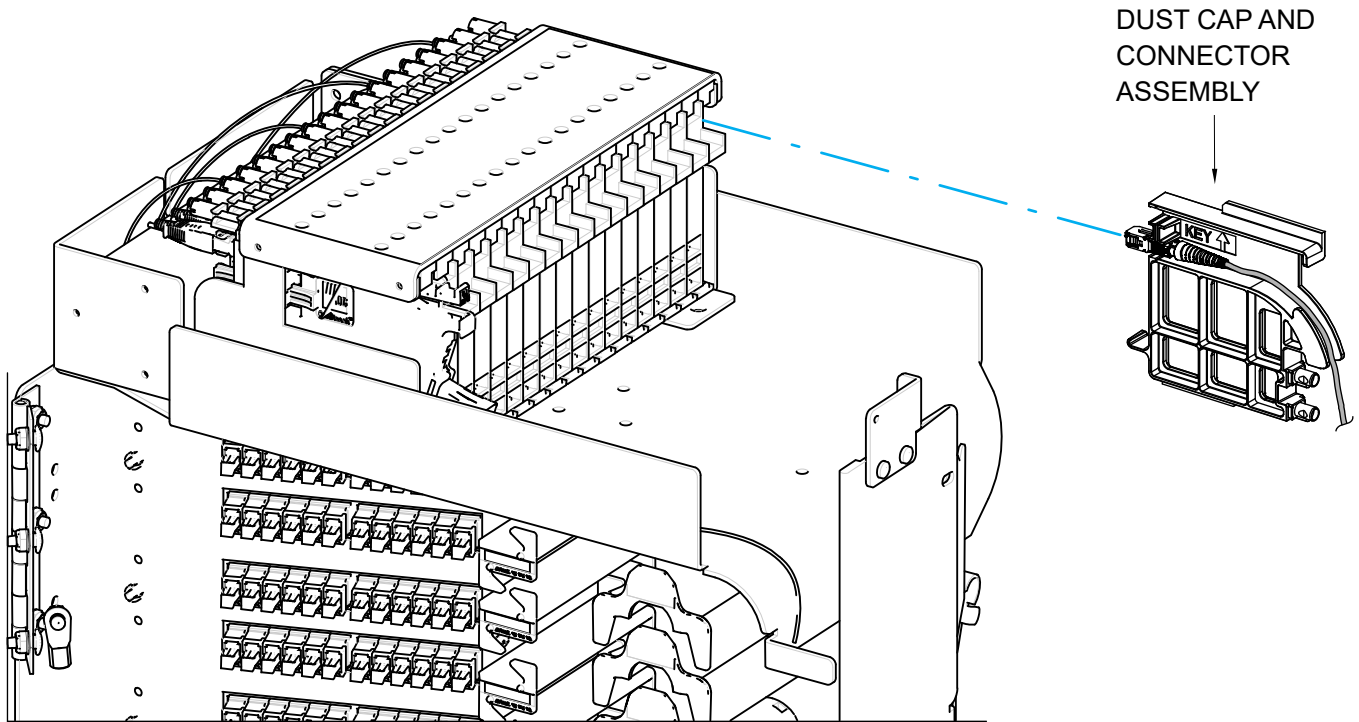

Figure 34. Inserting Dust Cap Assembly Into Splitter Compartment
- 16.2.9 Connect the patch cord connector(s) to the feeder cable connector(s) by inserting the dust cap assembly into the splitter slot as shown in Figure 34.